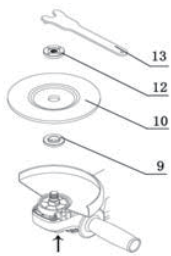
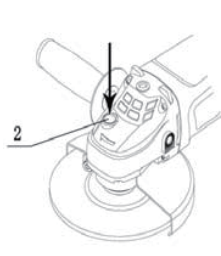
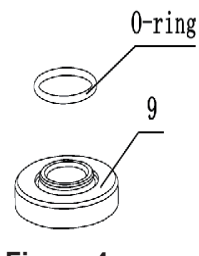

**Figure 3**
**Figure 5**
**Figure 4**
3)Fitting the grinding disc or cutting disc: (Figure 3 and Figure 4)
A.Place the inner flange (9) over the spindle making sure the fit is tight;
B.Place the grinding(10) or cutting disc (11 )on the top of the inner flange ensuring the bore fits into the step of the flange;
C.Mount the concave recess side of the outer flange (12) over the spindle;
D.Press the spindle locking button (2) firm and ensure there is no movement in the spindle. Then while the spindle lock is depressed tighten the outer flange in a clockwise direction using the spanner (13).(See figure 5)